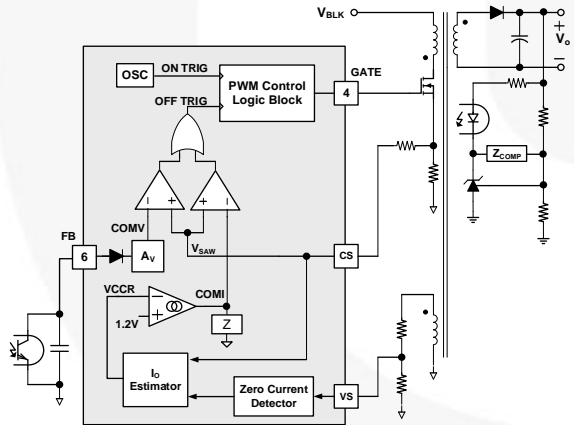

Figure 37. Simplified PWM Control Circuit
Figure 37 shows a simplified CV / CC PWM control circuit of the FAN602. The Constant Voltage (CV) regulation is implemented in the same manner as the conventional isolated power supply, where the output voltage is sensed using a voltage divider and compared with the internal reference of the shunt regulator to generate a compensation signal. The compensation signal is transferred to the primary side through an optocoupler and scaled down by attenuator A_V to generate a COMV signal. This COMV signal is applied to the PWM comparator to determine the duty cycle.